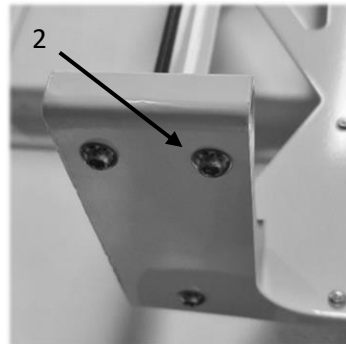

Figure 11: Screw connections for wheel mount
1. Loosen the three M8 countersunk head screws (2) (Fig. 11) and remove the faulty wheel mount (1).